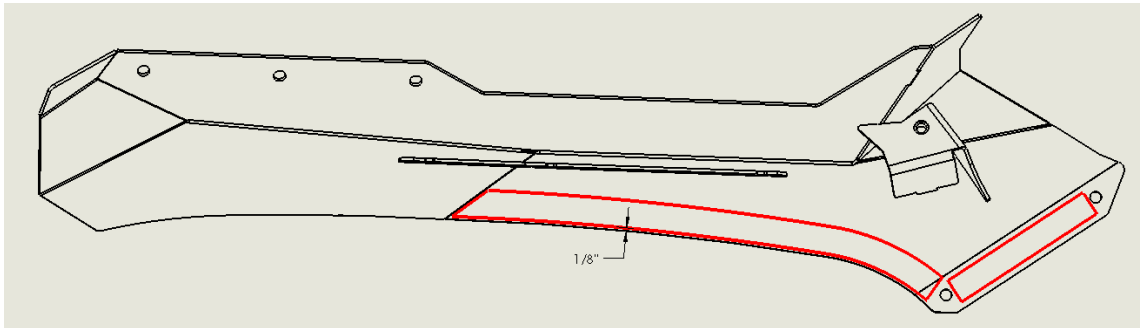

Fig 11
- d. Install the 1" neoprene rubber strip to the inside of both arms as shown in **Fig 11** highlighted in red.